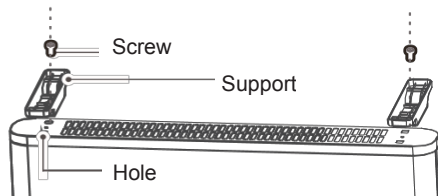

Figure 2
2. According to fig.2, remove the supports. Aim the buckle on the support at the hole, push the supporting foot until the holes on support coincides with the screw hole on the machine.